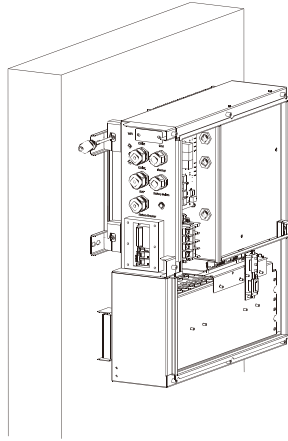

Figure 2.12 Fix SMILE-B3 to the Wall Bracket
**Step 7** Use a T20 screwdriver and M4\*12 screws in the package to fix Smile-B3 to the wall bracket, as shown in Figure 2.12.